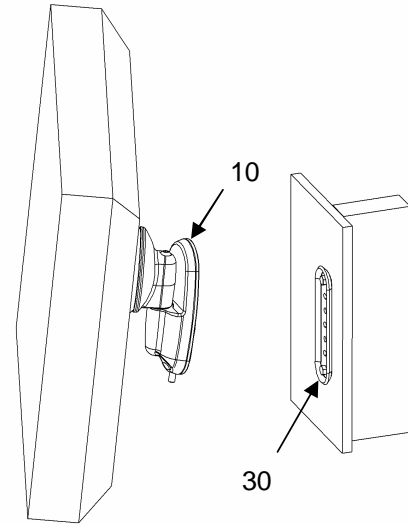

Figure 14. Attach Mount to Wall Bracket
1. Align top of mount (10) with top of wall bracket (30). Push bottom of mount against bottom of wall bracket until mount fits snugly in place (see Figure 14).